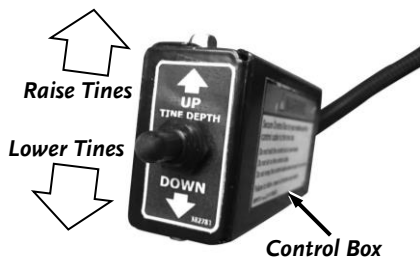

Figure 5
5. Using the Control Box, lower the Tines all the way down, which will raise the Wheel Axles from the pallet (**Figure 5**).